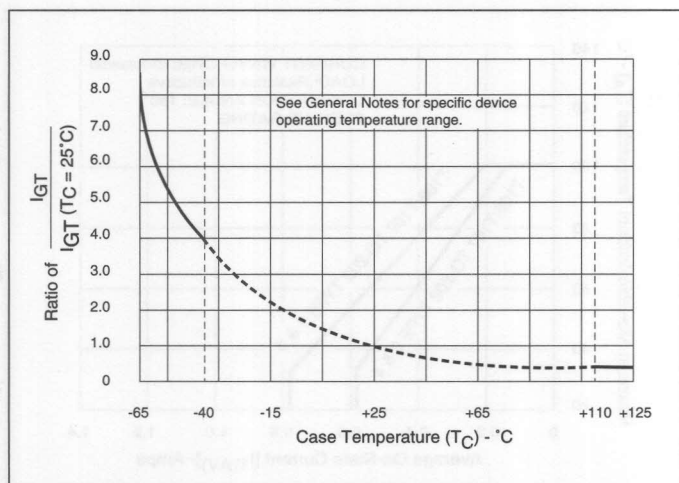

Figure 5.10 Normalized DC Gate-Trigger Current vs Case Temperature
- See Figure 5.10 for I_{GT} vs T_C .